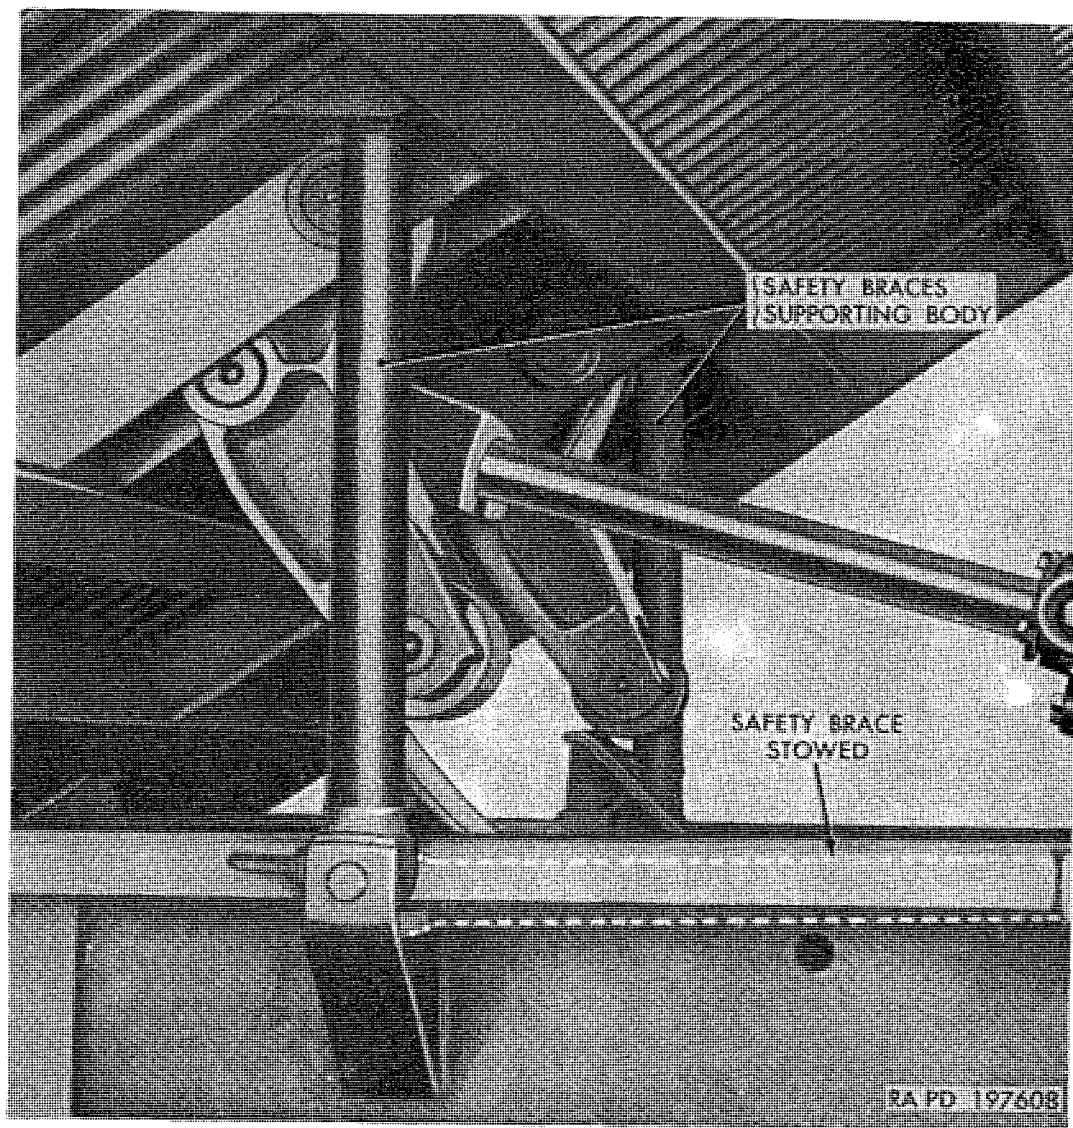

Figure 50. Dump body safety braces in position.
Caution: Whenever body must be in raised position for any maintenance or inspection of hoist mechanism, safety braces (fig. 50) must be positioned. Do not hold body in raised position by use of power-take-off lever in BODY HOLD position if working on hoist mechanism.
- (1) Raise body high enough to place safety brace on each side under body sill as shown in figure 50.
- (2) After braces are positioned, lower body until body rests on braces.
- (3) To release braces (fig. 50), raise body (b(1) above), until right and left braces can be lowered to their respective clips on subframe. After braces are positioned in clips, lower body (b(3) above).